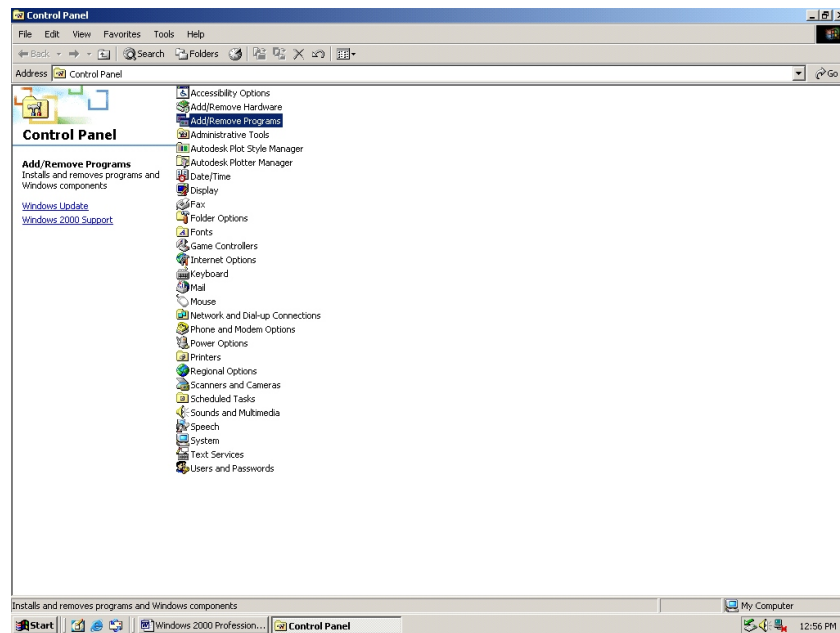

Figure B-2.2
2. Select **Add/Remove Programs** (see figure B-2.2).